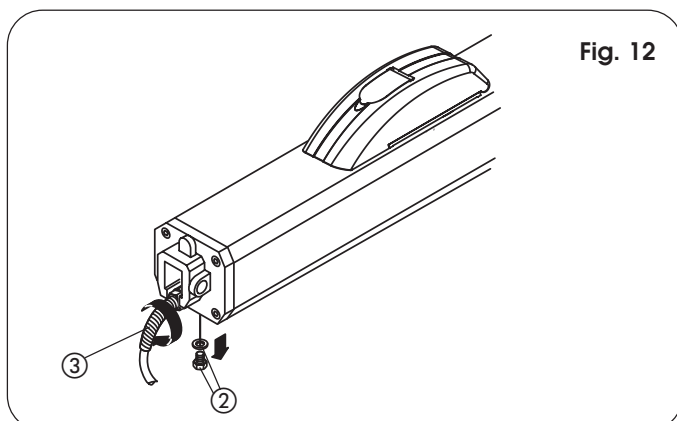

Fig. 12
Fit the electric cable bend guard (ref.③, Fig. 12).
- Remove the breather screw (Fig.12, ref. ②)